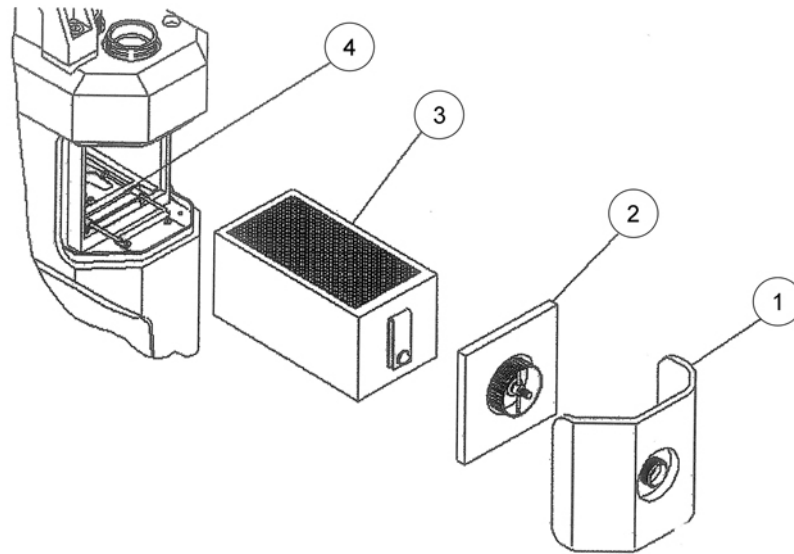

Fig 3.2 Scrubber Canister Replacement
1. Remove the outer door (Fig 3.2, Item 1) by unscrewing its knurled knob.
2. Remove the scrubber door (Fig 3.2, Item 2) by unscrewing its knurled knob and rotating the tommy bar to the position indicated on the door.
3. Pull the handle of the scrubber lift mechanism (Fig 3.2, Item 4) sharply outwards and allow the scrubber canister to drop down.
4. Grasp the red retrieval tab and withdraw the scrubber canister (Fig 3.2, Item 3).
6. Push the scrubber lift mechanism (Fig 3.2, Item 4) inwards until it locks over-centre.
7. Replace the scrubber door (Fig 3.2, Item 2) as follows: